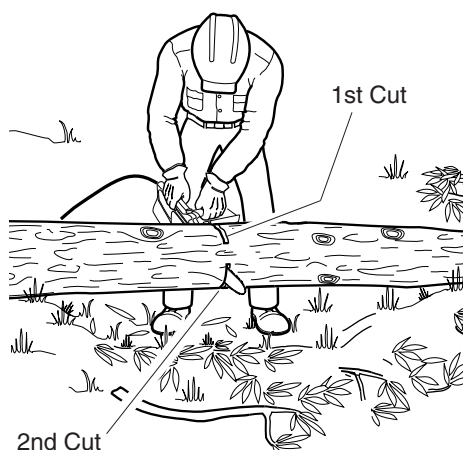

Figure 15 - Bucking Log When Log Is Supported On Both Ends
1. Make first cut from above log (see Figure 15). Cut 1/3 through diameter of log. This cut will keep section from splintering when cut.